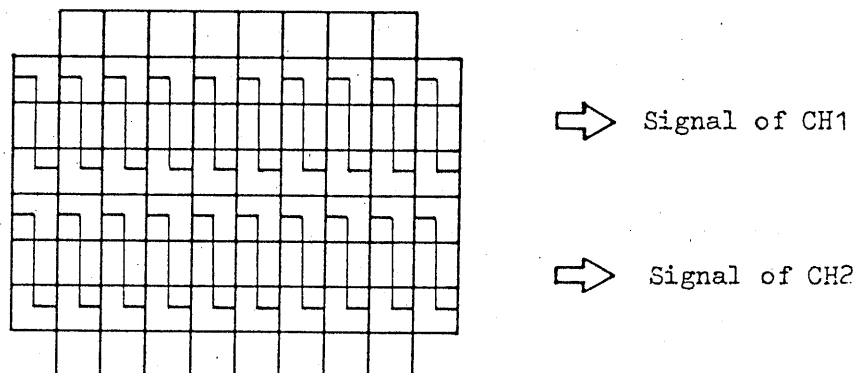

Fig. 6
Now, apply the calibration signal also to vertical INPUT terminal ⑱ of CH2 as is the case for CH1 and set the GND switch ⑳ in the popped up state (■). So adjust the vertical POSITION switches ⑦ and ⑫ that two channels of signals are displayed as shown in Fig. 6.